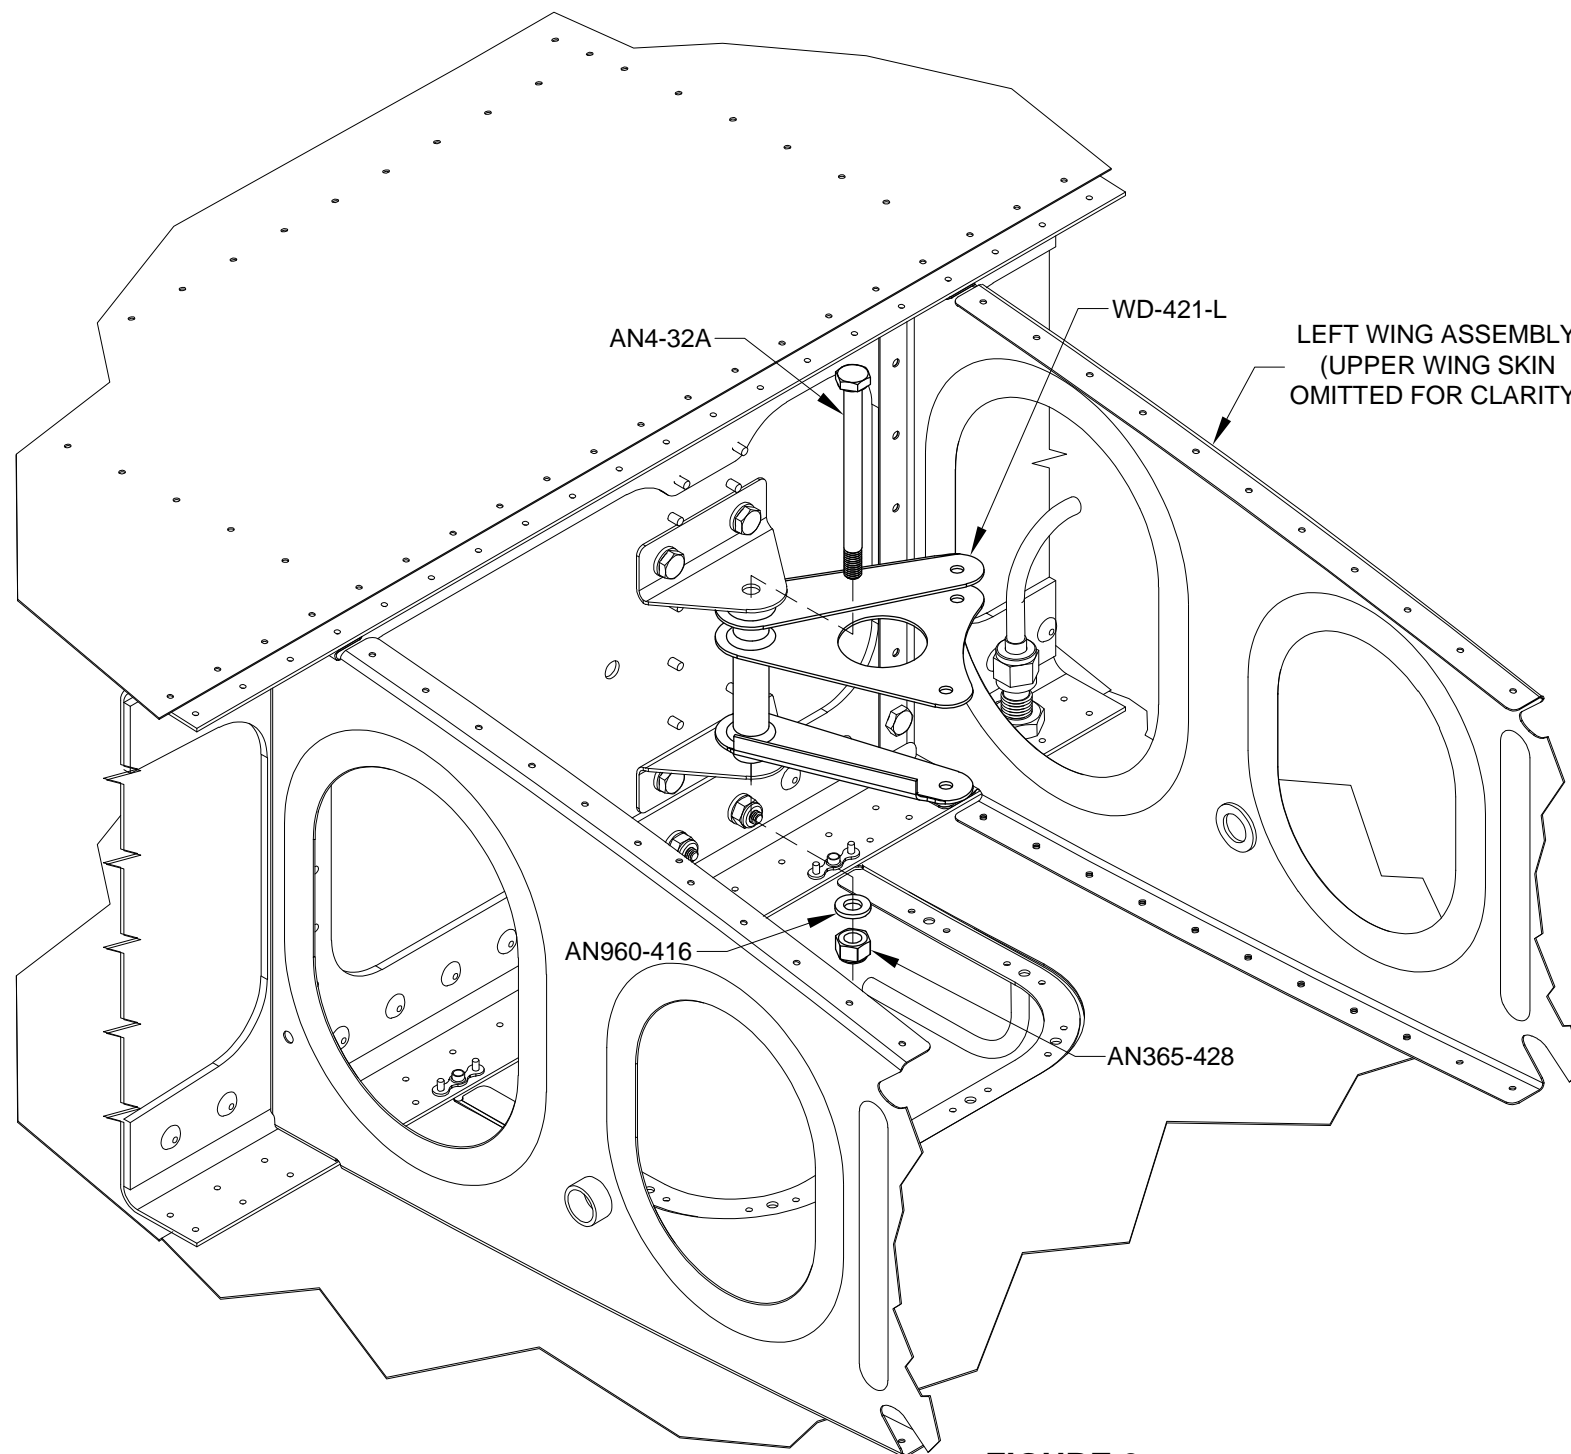

FIGURE 2:
Step 2: Install the WD-421-L Aileron Bellcrank/BUSH-BS.245X375X2.781 Aileron Bellcrank Bushing subassembly into the left wing as shown in Figure 2.